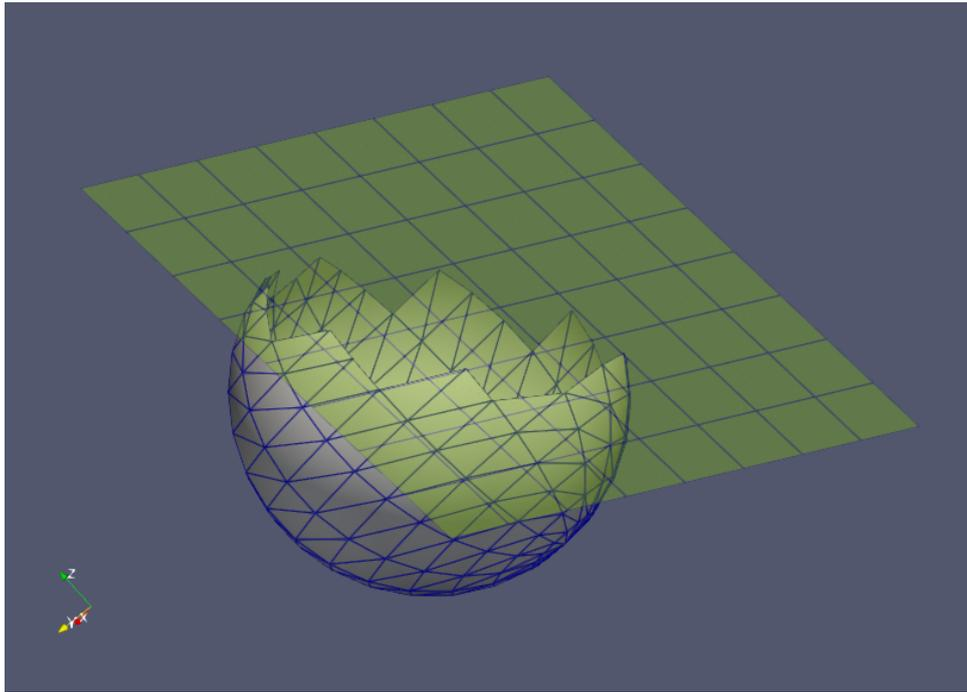

Fig. 2.44: All options are off
- Without any options, cells are not clipped, and only cells that are fully on one side of the clipping plane are kept in the output: Fig. 2.44.